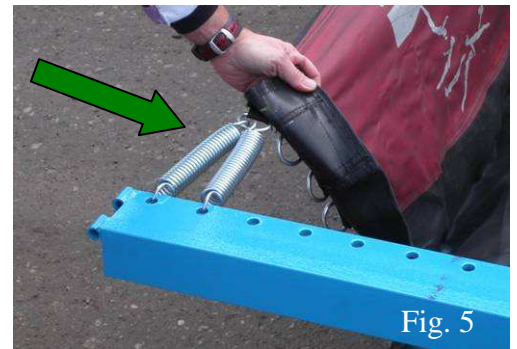

Fig. 5
- B. Insert the down tubes of the 10' rails into the legs. The spring holes should face the inside of the Tumbl Trak™. (See Fig. 2 & Fig. 5-next page).
- B. Hook two springs on the first D-ring (the silver rings that are sewn along the edges of the bed). Using the Spring Tool, attach the first and second springs to the first two spring holes respectively (See Fig. 5-next page).